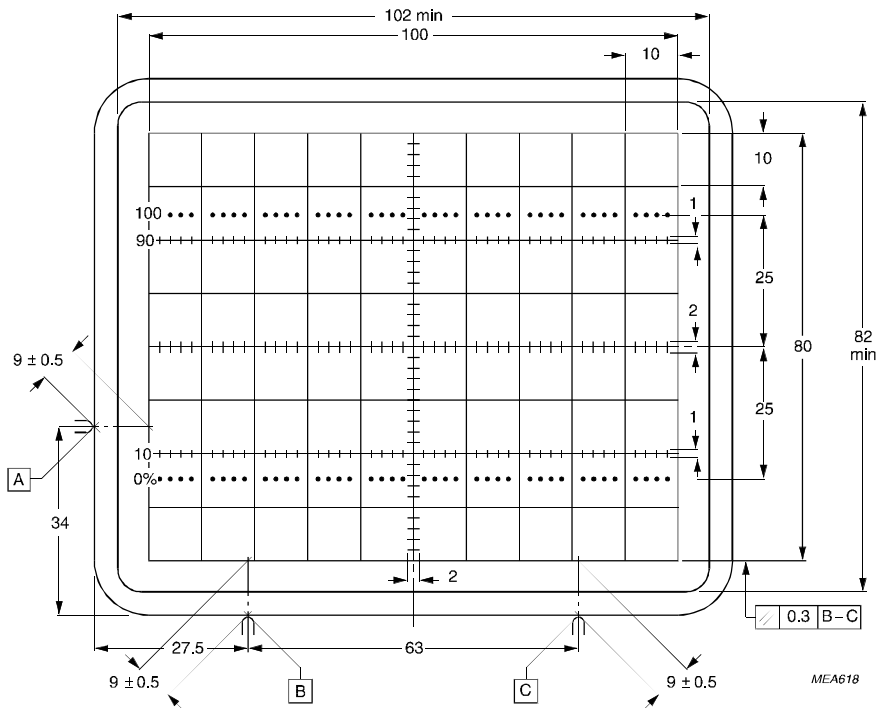

Fig.4 Front view of the tube with internal graticule, type 123.
Internal graticule	type 123; see Fig.4
The tube can be mounted in any position. It must not be supported by the socket and not by the base region alone. The reference points (A, B and C ) on adjoining edges of the faceplate (see Fig.4) enable the tube to be positioned accurately in the front panel, for optimum alignment of the internal graticule with respect to the bezel.
- (1) Dimensions of faceplate only. The complete assembly of faceplate and cone (frit seal included) will pass through an opening of 122 mm x 102 mm.
- (2) The coil is fixed to the envelope with resin.
- (3) The length of rotation coil connecting leads is min. 350 mm.
- (4) Reference points on faceplate for graticule alignment (see Fig. 4).
The internal graticule is aligned with the faceplate by using the faceplate reference points, see Fig.4 and note 1. The reference points A, B and C are for aligning the graticule with the faceplate. Line thickness = 0.18 mm; dot diameter = 0.38 mm; colour red.
1. Because the frit seal is visible through the faceplate, and is not necessarily aligned with the internal graticule, application of an external passe-partout with an open area of max. 102 mm x 82 mm is recommended. The internal graticule is aligned with the faceplate by using the faceplate reference points (see Fig.4).